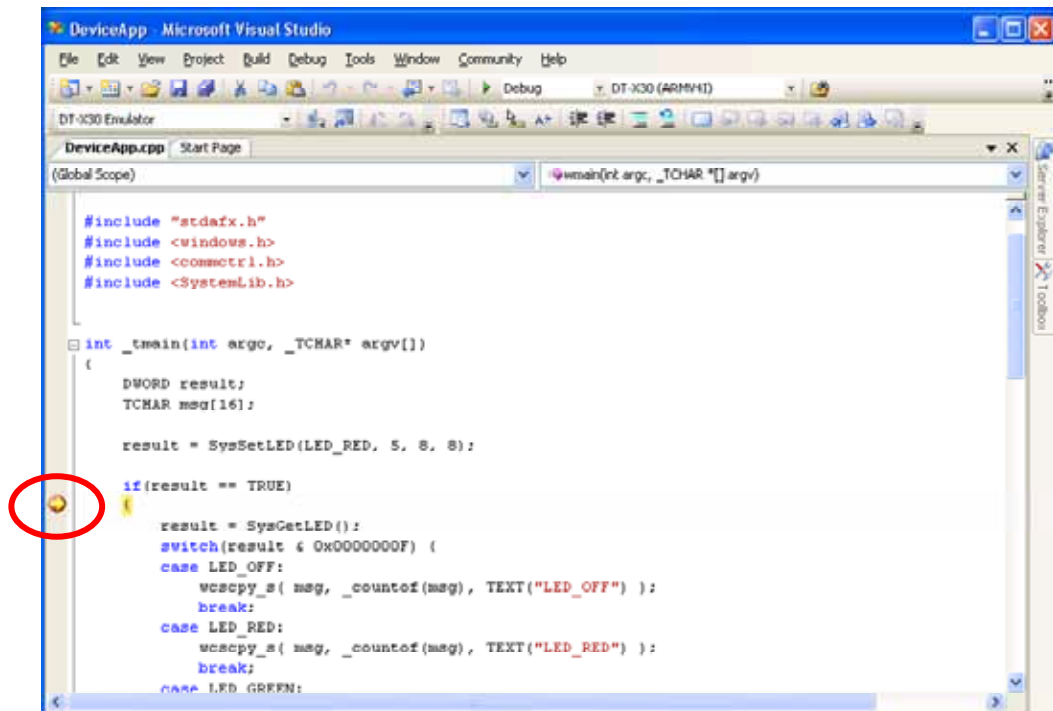

Figure 7.20
2. Similar to ordinary debugging operations with an actual DT-X8, the **Device Emulator** allows break point setting (circled in red in Figure 7.20) in the source code and step-by-step debugging.